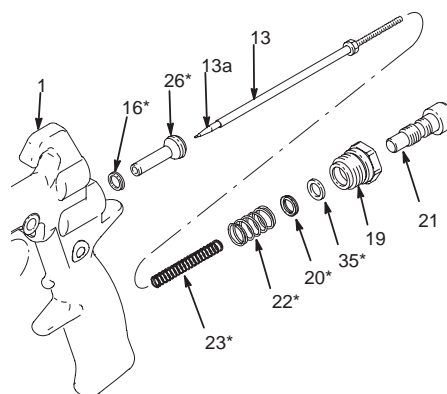
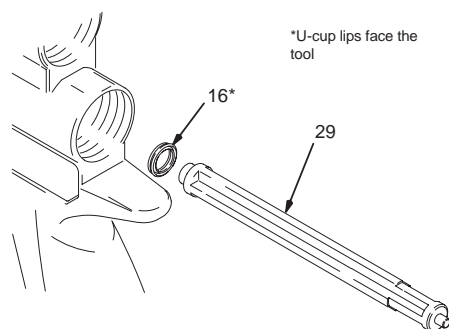
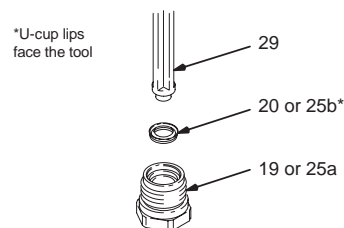

Fig. 26
Fig. 27
Fig. 28
4. One at a time, install the new u-cup packings (25b) with the packing installation tool (29); the u-cup lips must face toward the tool as shown in Fig. 28.
1. Remove the fluid valve nut (19), air valve spring (22), and air valve assembly (26). Discard the air valve assembly. See Fig. 26.
2. Using a mechanical pick, remove the u-cup packing (16) from the gun body.
3. Place the new u-cup packing (16) on the packing installation tool (29), with the u-cup lips facing the tool as shown in Fig. 27.
4. Push the packing (16) into the back of the gun until a definite snap is felt.
5. Using a mechanical pick, remove the u-cup packing (20) and spacer (35) from the fluid valve nut (19). Be careful not to damage the seal surface or the nut's internal threads.
6. Install a new u-cup packing (20) with the packing installation tool (29); the u-cup lips must face toward the tool as shown in Fig. 28. This will help apply even pressure to the u-cup lips and avoid damaging them.
7. Push the u-cup packing (20) and spacer (35) into the fluid valve nut (19) until a definite snap is felt.